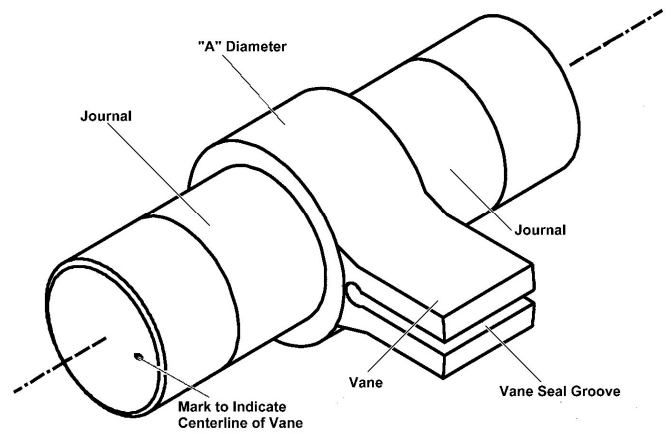

Figure 1 – Shaft Definitions
A. Shaft (Figure 1)
iii Scoring on "A" (major) diameter. Figure 1. Any scratch 0.010 inches or deeper indicates replacement.
iv Scoring or galling on shaft journal. See Figure 1.
v Scoring or galling on end of "A" (major) diameter. See Figure 1.
- a. Place body (2) on a flat surface. Put the head dowel pins (3) into the body for the dummy head. Attach the dummy head so that it is properly seated. Turn the body and dummy head over so that the dummy head is on the flat surface.
- b. Install the shoe cushion seal (11) and shoe cap seal (10) into the body (2). If they were removed previously, install cross-port plugs (17) into body per Table 1, Torque Specifications.
- i. Lubricate the shoe cap seal (10) and the ID of the body (2).
- b. Insert the vane cushion seal (15) and "C" shaped shaft vane cap seal (14) in vane of the shaft (1). Lubricate with grease to hold the seals in position. Lubricate the "A" diameter of the shaft (see Figure 1). Use care to avoid nicking or cutting the vane seals.
- d. Place the shoe seal protector over the shaft extension and place this assembly into the dummy head. Rotate the shaft (1) approximately 90° from the shoe position. Slide the shaft (1) into the body (2) until the vane is fully installed.
- f. Install shaft cushion seal (12) and shaft cap seal (13) into the head (5). Smooth out ripples or wrinkles in the installed shaft cap seal (13). Install dirt excluder seal (6) into the head (5).
- g. Place wavy spring (7), hub ring seal (8), and hub cap seal (9) into the head (5). Ensure that hub cap seal (9) is free to move axially.
- h. Place head O-ring seal (16) into the groove in the head (5).
- i. Lubricate all seals and internal parts with grease sufficient enough to maintain the seals in position when the head is inverted and installed on the body (2).
- j. Invert the head (5) and carefully slide it down over the shaft (1).
- i. NOTE: **Do NOT** hammer on the head (5) or allow the hub cap seal (9) or head O-ring seal (16) to become dislodged from its cavity as the head (5) is mated to the body (2). Install two screws (4) 180° apart and tighten the screws (4) to pull the head (5) onto the body (2).